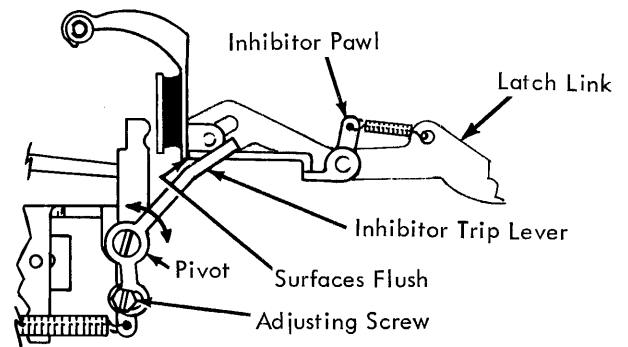

FIGURE 39. Inhibitor
1. Adjust the inhibitor trip lever (Fig. 39) so that the bottom edge of the inhibitor pawl is flush with the bottom edge of the cycle clutch latch (Fig. 39) with all parts at rest.